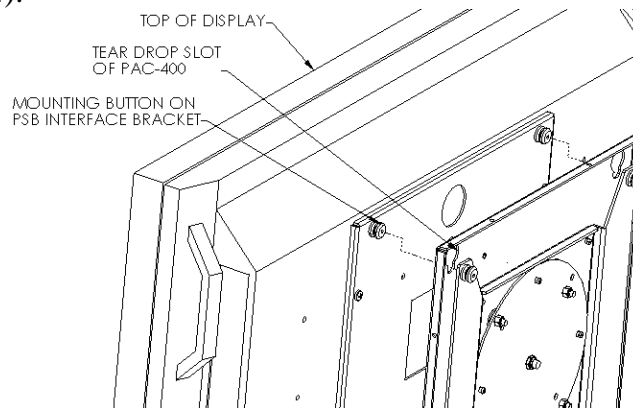

Figure 4
3. Attach PAC-400 to PSB Interface Bracket by placing the mounting buttons of PSB into the teardrop slots of PAC-400. Make sure the mounting buttons are placed securely in teardrop slots. (See Figure 4).